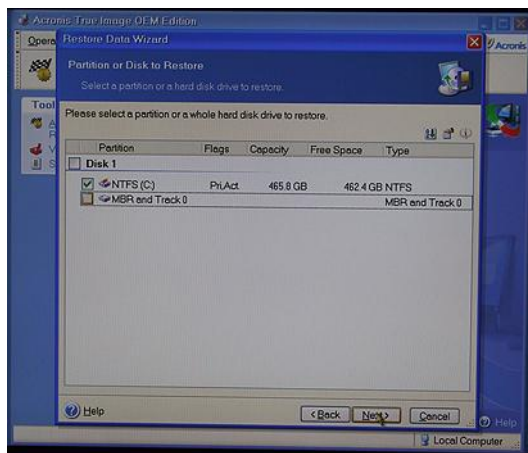

Figure 3-61
- 25) Select the **Restore Disks or Partition** item and then click the **Next** button to be presented with the **Partition or Disk to Restore** page (Figure 3-61).